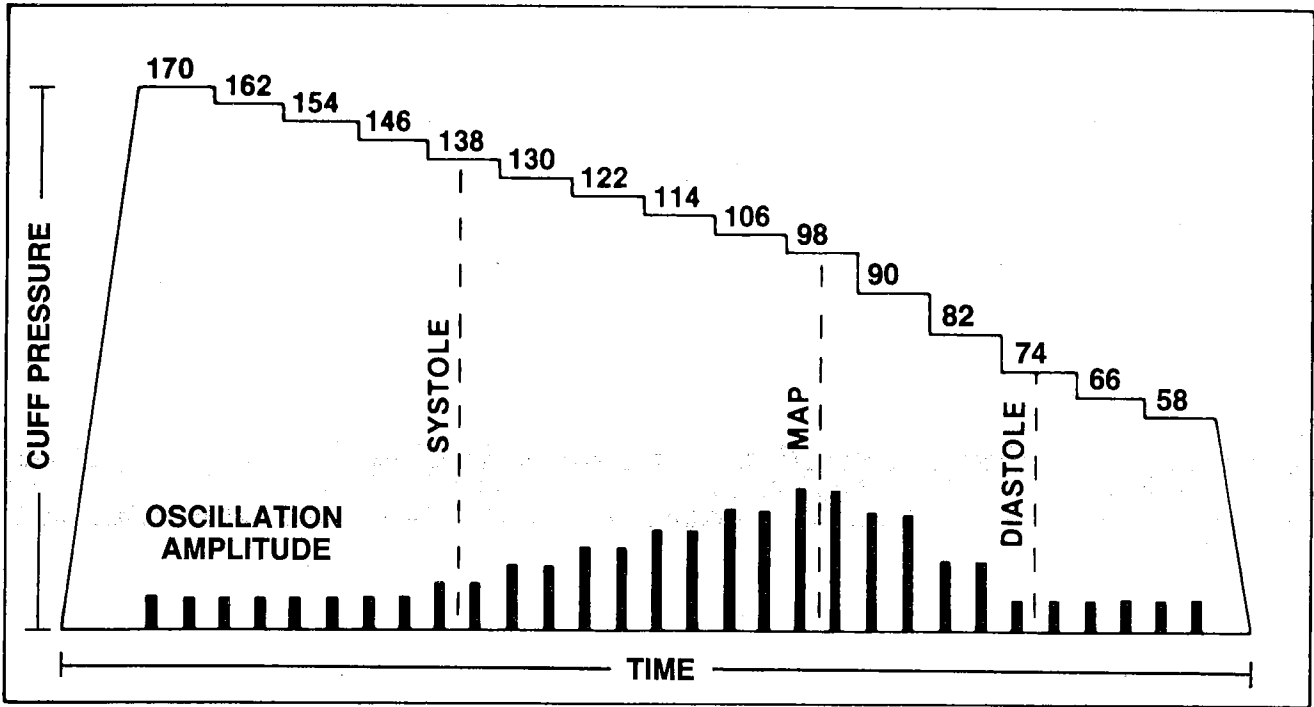

Figure 4-1 Determination Sequence
4.1 Determination Sequence (See Figure 4-1)